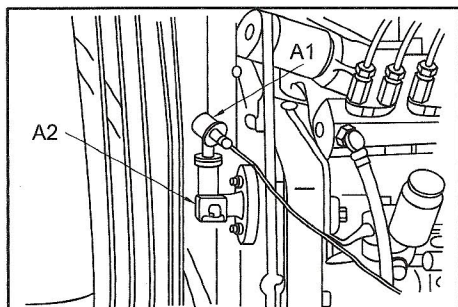

Fig. 05-02
(2) Install a connector A2, then connect it with the tachometer A1 (Please see Fig.05-02, 05-03).